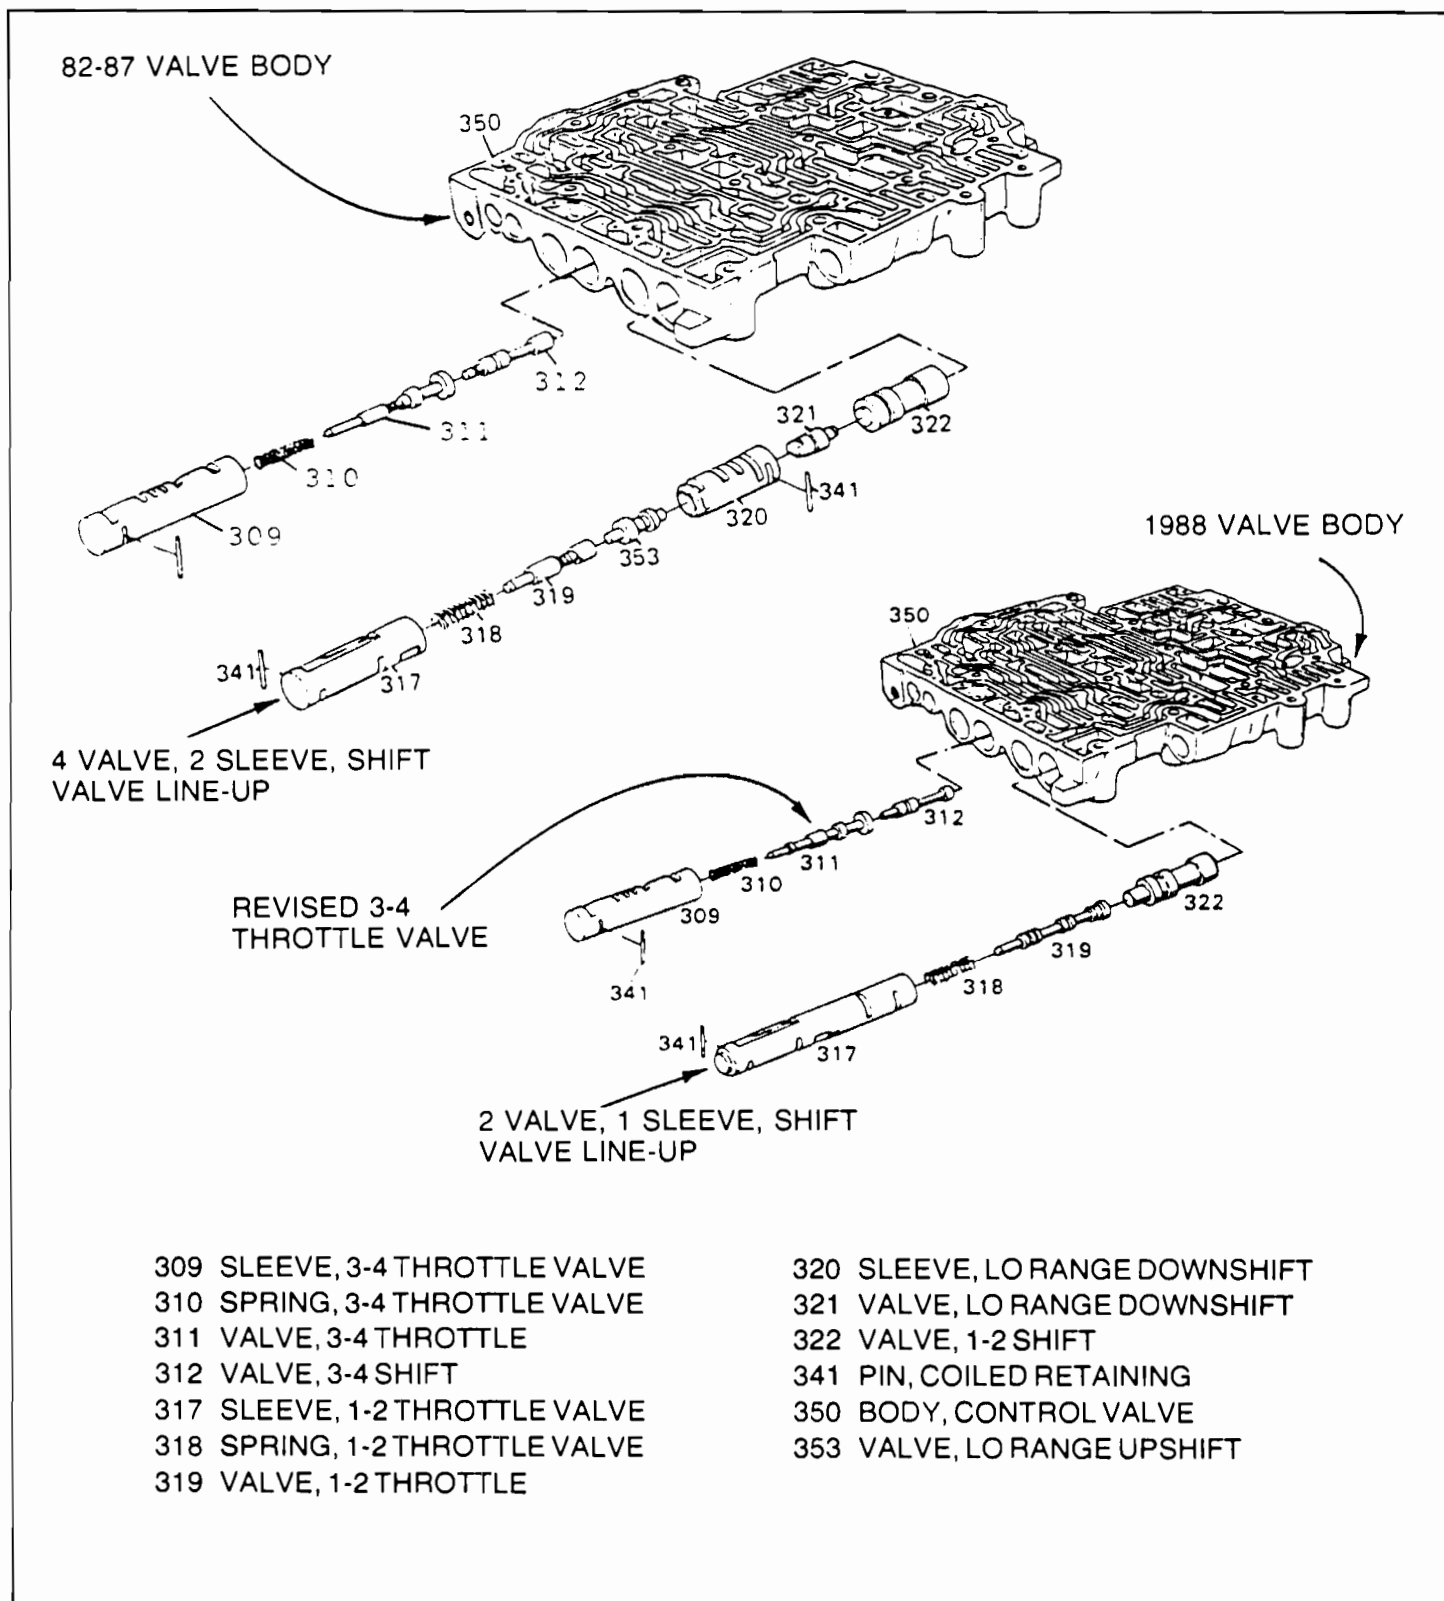

Figure 6
CHANGE: Revised 1-2 shift valve line-up in the main valve body, and a revised 3-4 throttle valve and sleeve (See Figure 6).
- (1) 1-2 SHIFT VALVE LINE-UP - The 1-2 shift valve line-up changes from 4 valves and 2 sleeves, to 2 valves and 1 sleeve. The Lo-Range Downshift Valve(321), Lo-Range Control Sleeve(320), and the 1-2 Lo-Range Upshift Valve(353) have been eliminated from 1988 and later models (Figure 6).
- (2) 3-4 THROTTLE VALVE - The 3-4 throttle valve and sleeve have been revised. (See Figure 6).